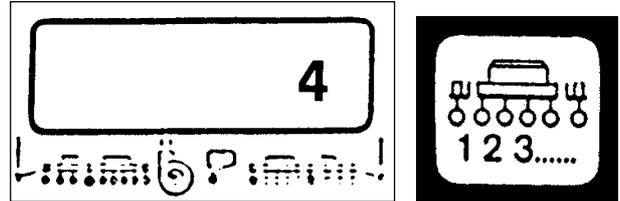

Fig.4
4.2.4 Key "Number of Units" (Fig.4)